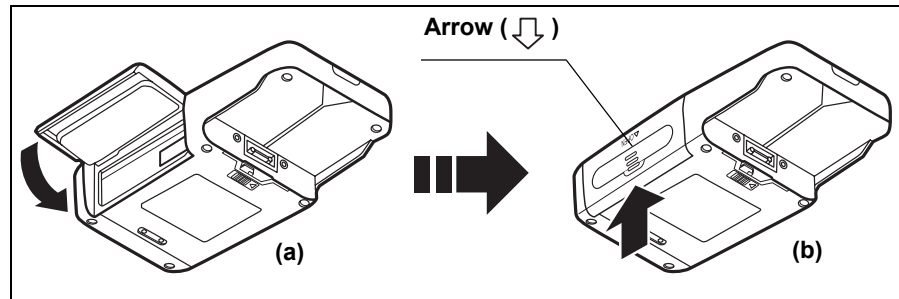

Figure 5.22
3. Close the battery back slot cover, taking care not to catch the battery pack removal ribbon, and then slide the cover upward to lock it (see Figure 5.22 (b)).